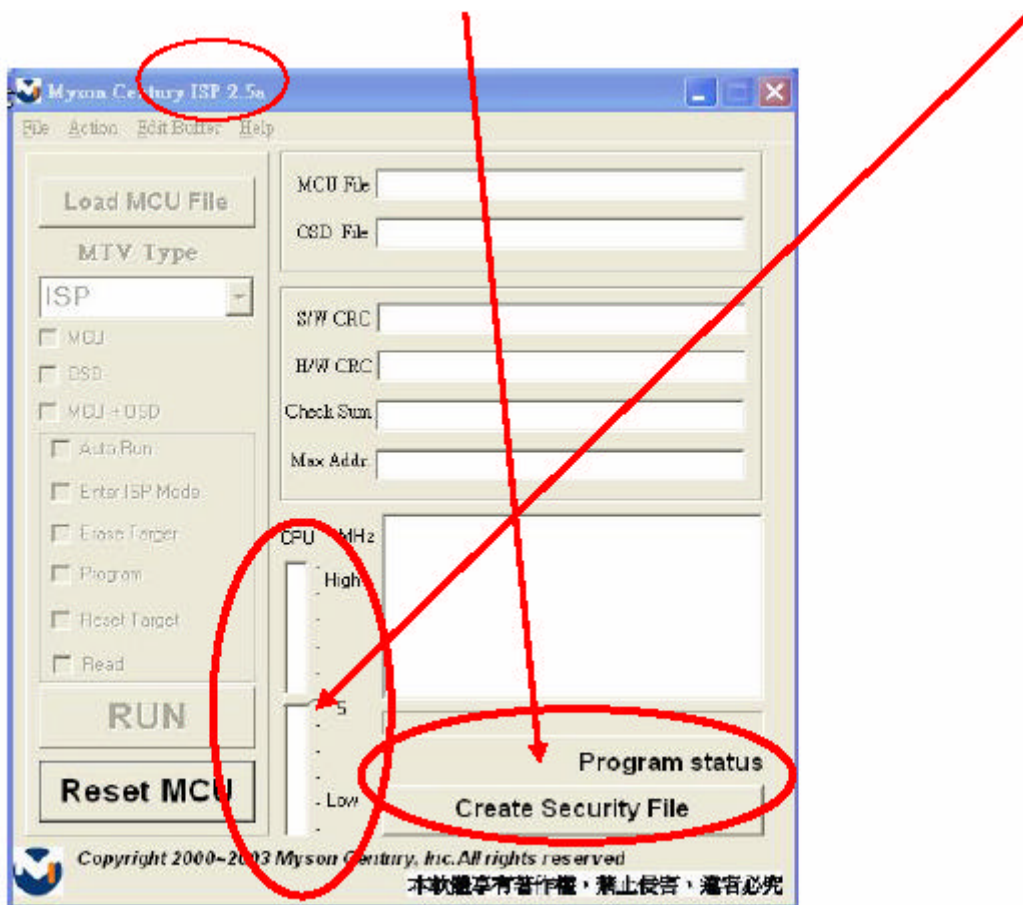

Fig 3.4
2.4 Press “ Create Security File ” button to key in security code. Adjusting bar to decrease speed of IIC bus, see Fig 3.4.